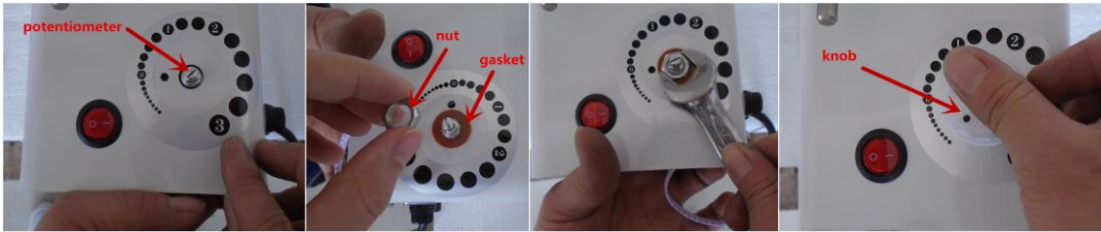

Fig 4
D. 把电位器套进机器上的孔，然后依次把垫片和螺母套进电位器上，用扳手固定螺母，最后把旋钮盖套进电位器上。(图 4)
Finally, knob is setted into potentiometer. (fig4)
First, put the new PCB into the machine and fix it. Then fix the yellow-green wires 1 and 2 in screw 7 in the new PCB (Fig4).
G.把两条蓝色线固定在新电路板的位置“3”。最后把棕色线固定在新电路板的位置“2”。（如图 4）
First fix the two blue wires in screw 3. Then fix the brown wire in screw 2. (Fig 4)